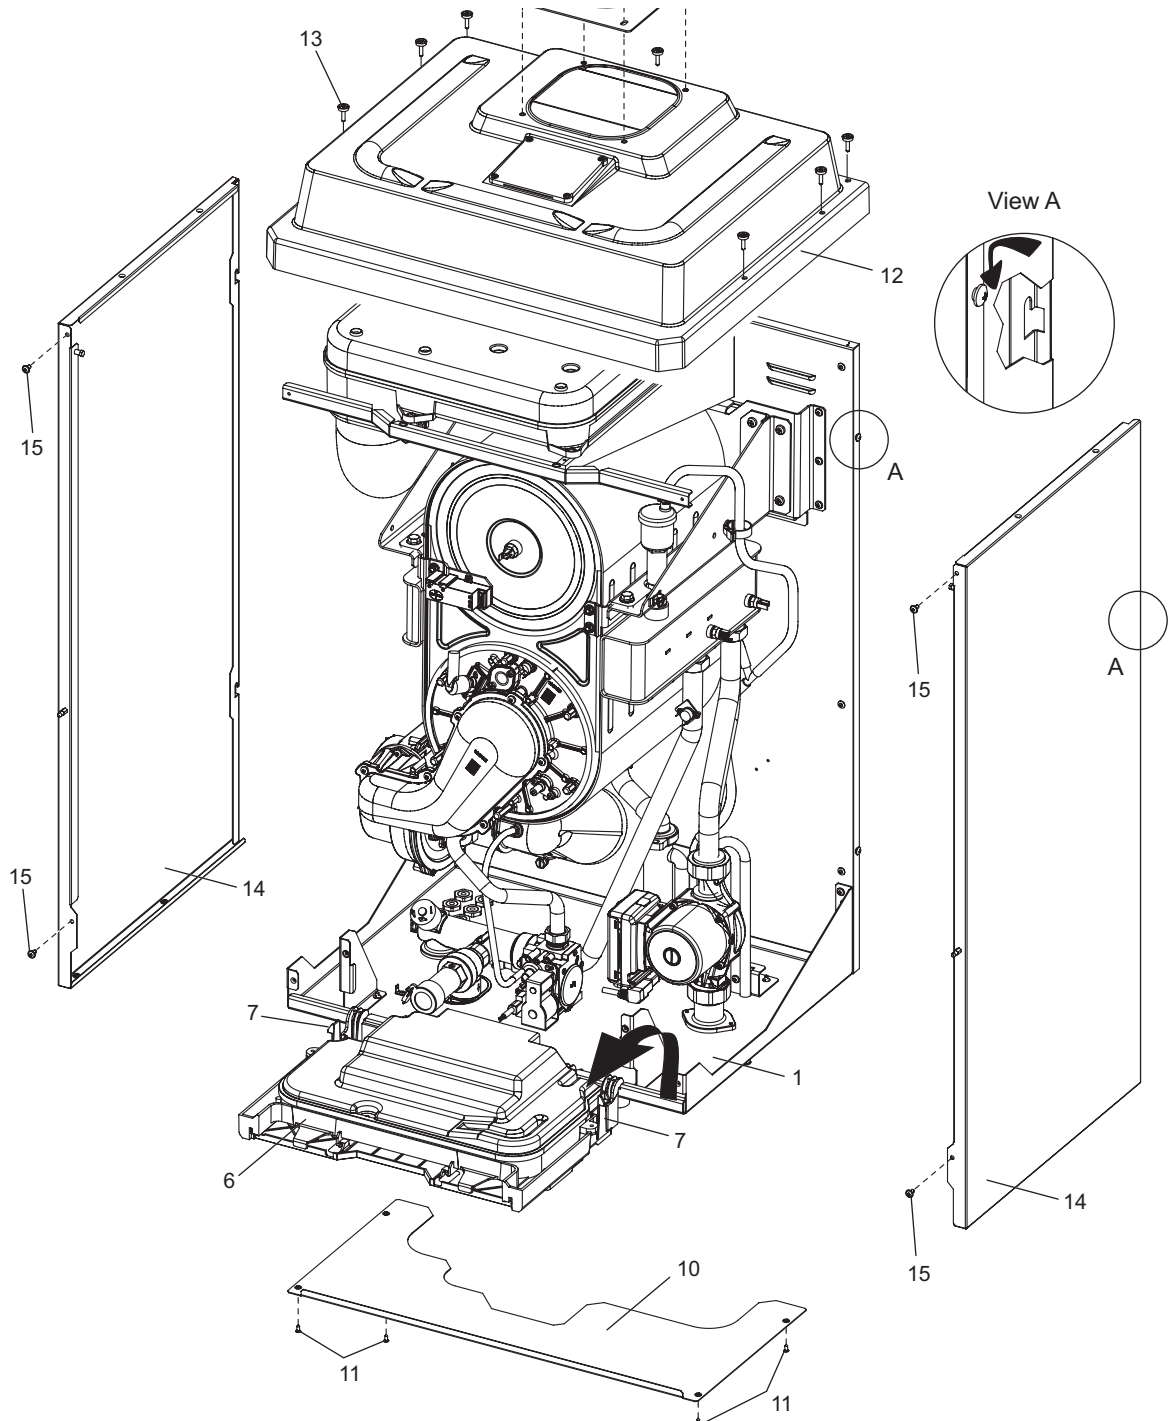

Fig. 6.1 (Pro Tec Plus 70 shown)
Remove the two screws (15) securing the side panel (14). Lift the side panel and pull it forwards unhooking it from the rear panel (view 'A' in Fig. 6.1) Lower the panel out and away from the top cover.